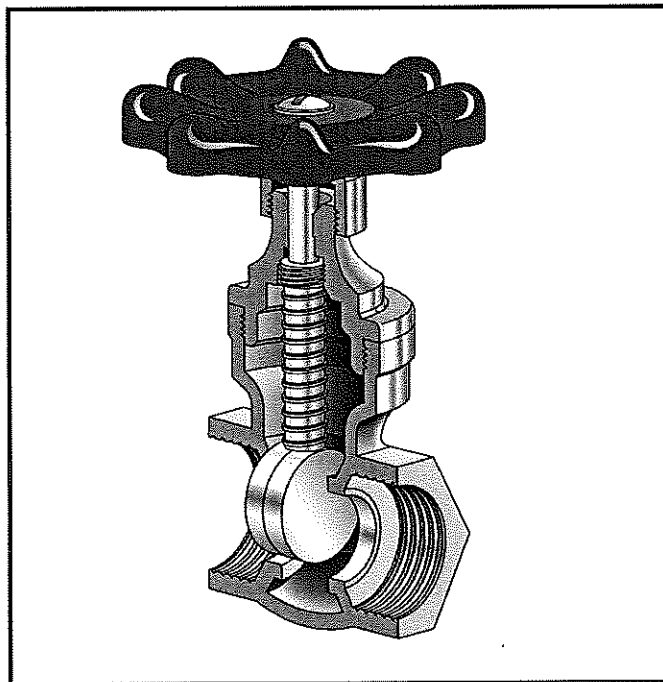

FIGURE 4.4
- 4.4 FIGURE 4.4 below shows a valve used in cold-water supply systems.